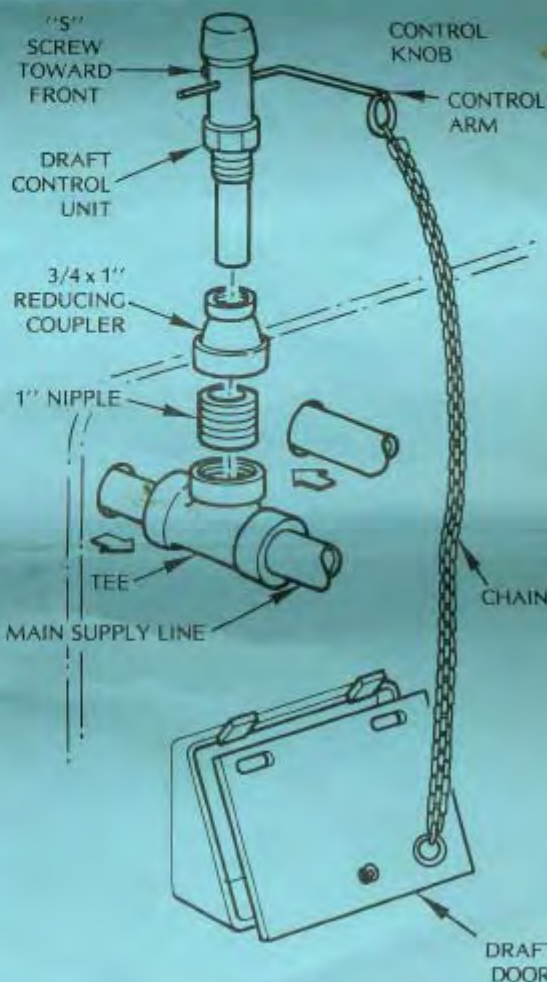

Fig. 4
9. Assemble the draft control unit and pipe fittings as shown in Fig. 4. Install this completed unit into the tee fitting on the main supply line at the rear of the stove. Set the desired temperature using the white numerals on the control knob. Close draft door, adjust chain length until taut, and secure to door and control arm with rings.
When reassembling the lever arm, insert the connecting piece so that rectangular recess (4) faces the hexagon of the immersion pocket (fig. 4, page 8).